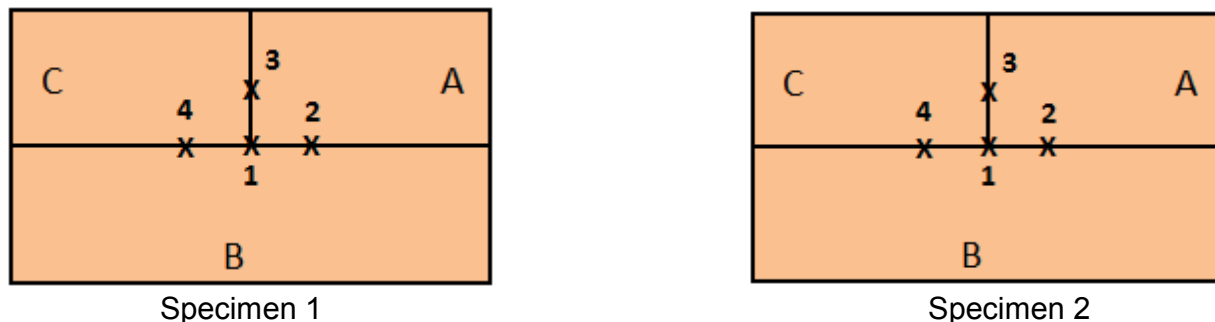

Figure 4 – Test Locations on Assembled Planks Two side by side specimens, 1 and 2
- 6) Mark test locations at 1 ½" (38.1 mm) on three sides of the center length mark - See Figure 4.